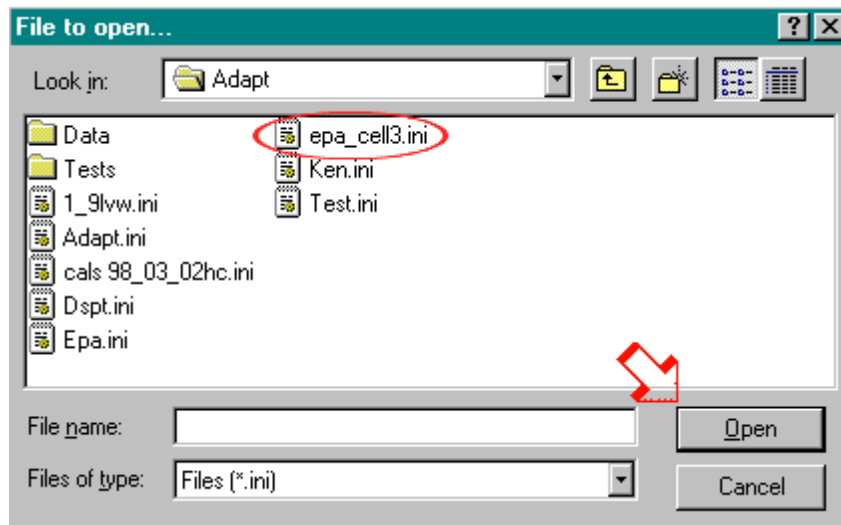

Figure 3
- 105 Select "EPA_Cell3ini" from the "File to open" dialog box. See the circle in Figure 3. Click on the "Open" button. See the arrow in Figure 3.